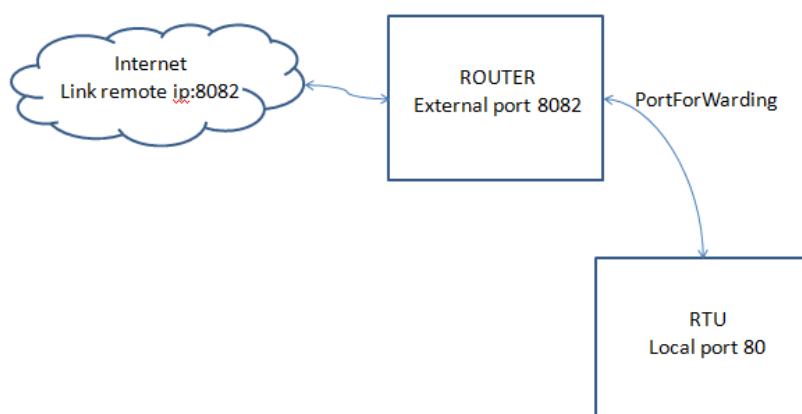

Figure 26 - Network infrastructure
- HTTP Portforward: defines the external HTTP port if configured differently from 80, to ensure that emails are sent correctly. See Figure 26